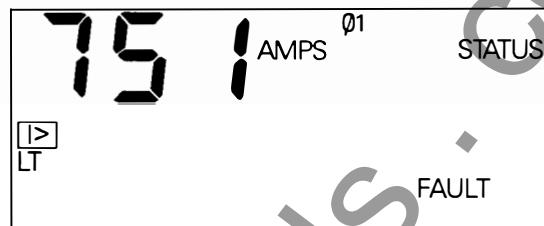

Figure 59. Trip Unit Status display for long-time overcurrent trip.
After a long-time overcurrent trip, the trip information display contains the fault current magnitude at trip, the phase on which the fault occurred, and the overload (I>) and long-time (LT) trip targets. This display is illustrated in Figure 59.